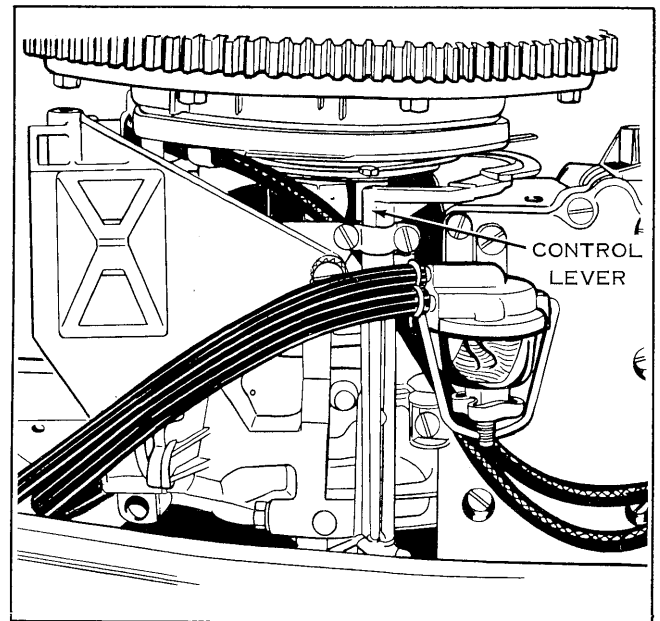

FIGURE 8
4. Remove the control lever mounting screws and clamps and the mounting screws from the port starter mounting bracket. Bracket then can be removed from motor. See figure 8.